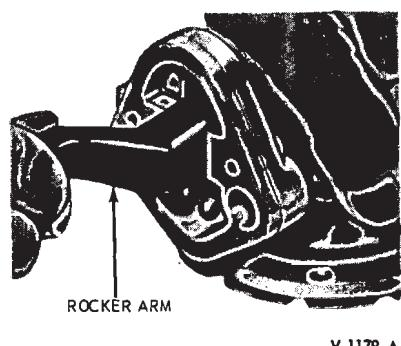

FIG. 9—Fuel Pump Diaphragm Removal or Installation
6. Press the diaphragm into the fuel pump body and pull the rocker arm out to release the rod from the rocker arm bumper pad (Fig. 9).
1. Position the fuel pump diaphragm assembly into the pump body, then apply pressure on the diaphragm spring so that the rocker arm can be installed on the rod as shown in Fig. 9.